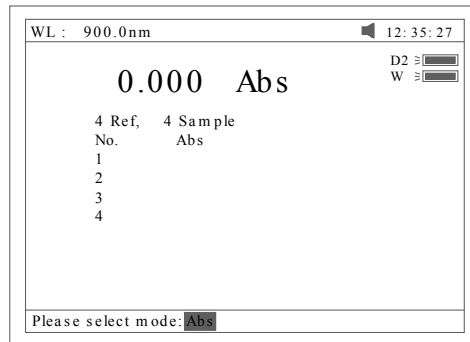

Fig 103
2. Press **[F2]** to select test mode (Abs or %T, Fig 103).